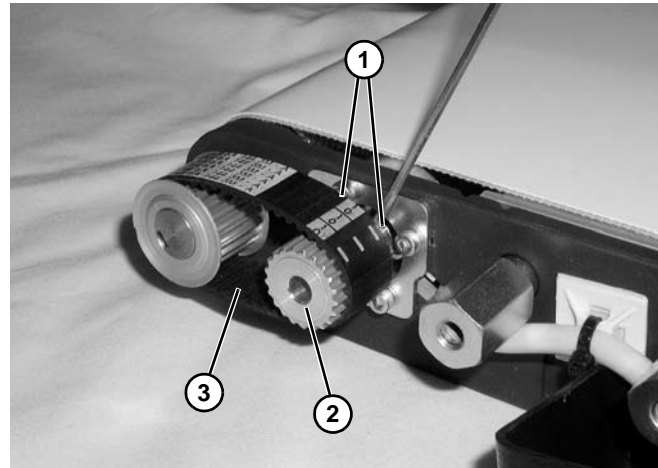

Figure 52
- Loosen two set screws (Figure 52, item 1) on drive pulley (Figure 52, item 2). Slide drive pulley outward off of the gearmotor shaft, and remove timing belt (Figure 52, item 3).